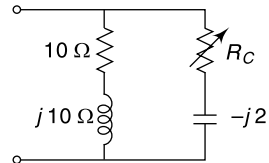

Fig. 5.53 Circuit diagram for Ex. 5.56
5.56 Calculate the value of R_C in the circuit shown in Fig. 5.53 which yields resonance.